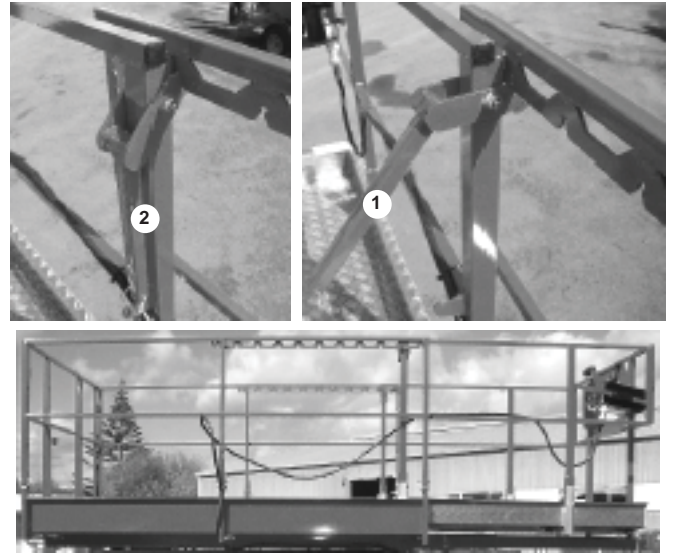

Figure 8.21.
The multi-position extendable platform (see figure 8.21) can be securely locked into different positions. To move it from one position to the other, do the following:
2. Lift up the deck extension handles (one for each side of the deck) (1) to unlock the deck (see figure 8.21).
4. Lower the deck extension handles and allow the lock (2) to locate (see figure 8.21).